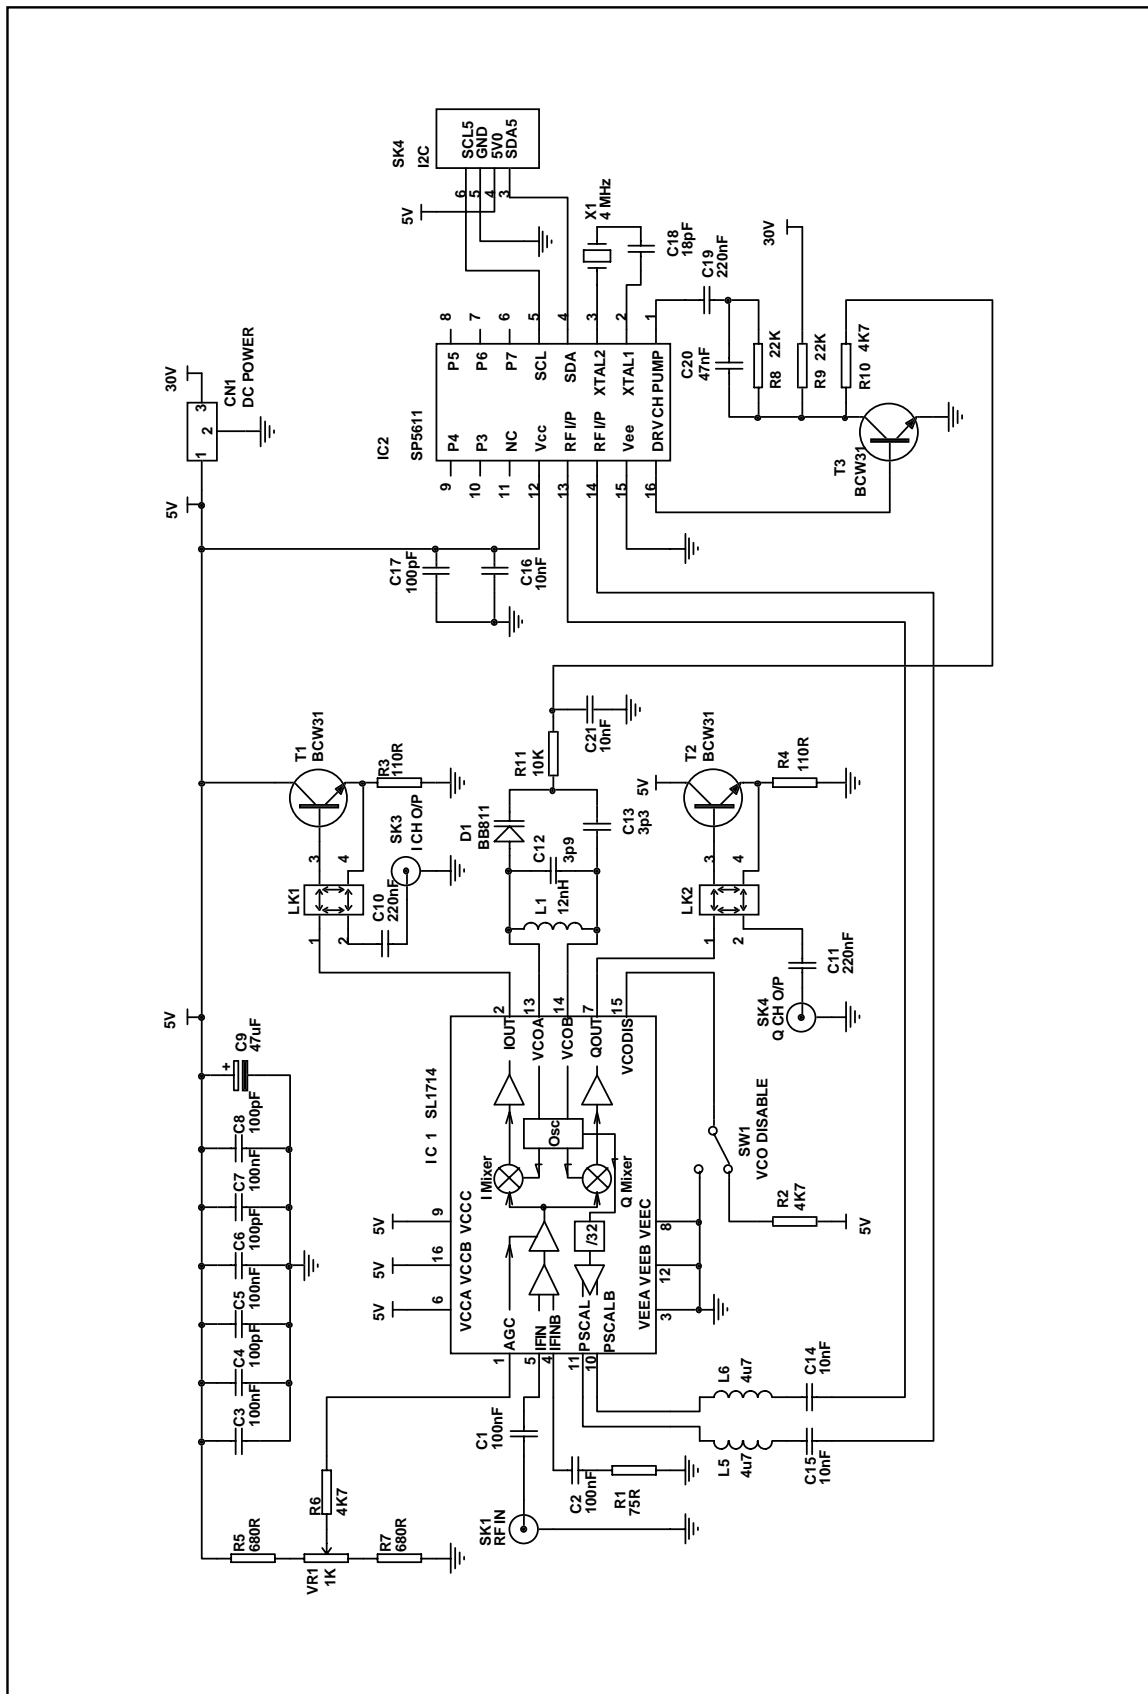
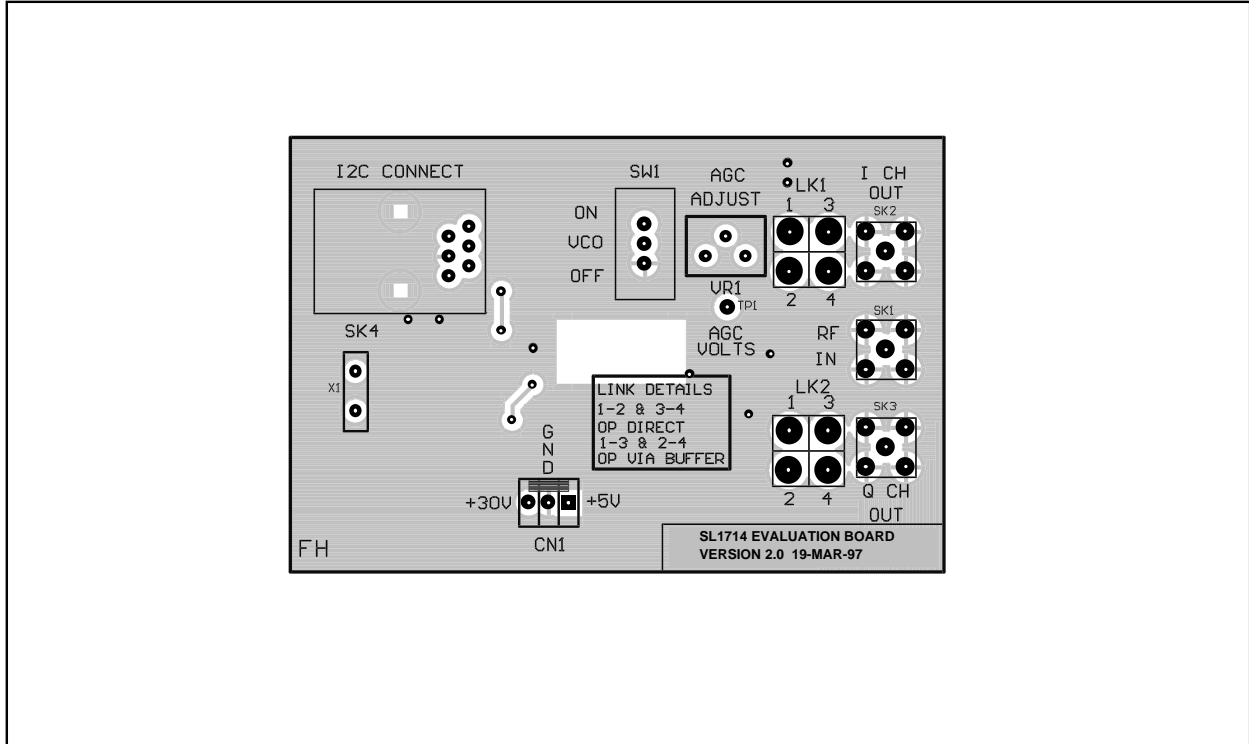
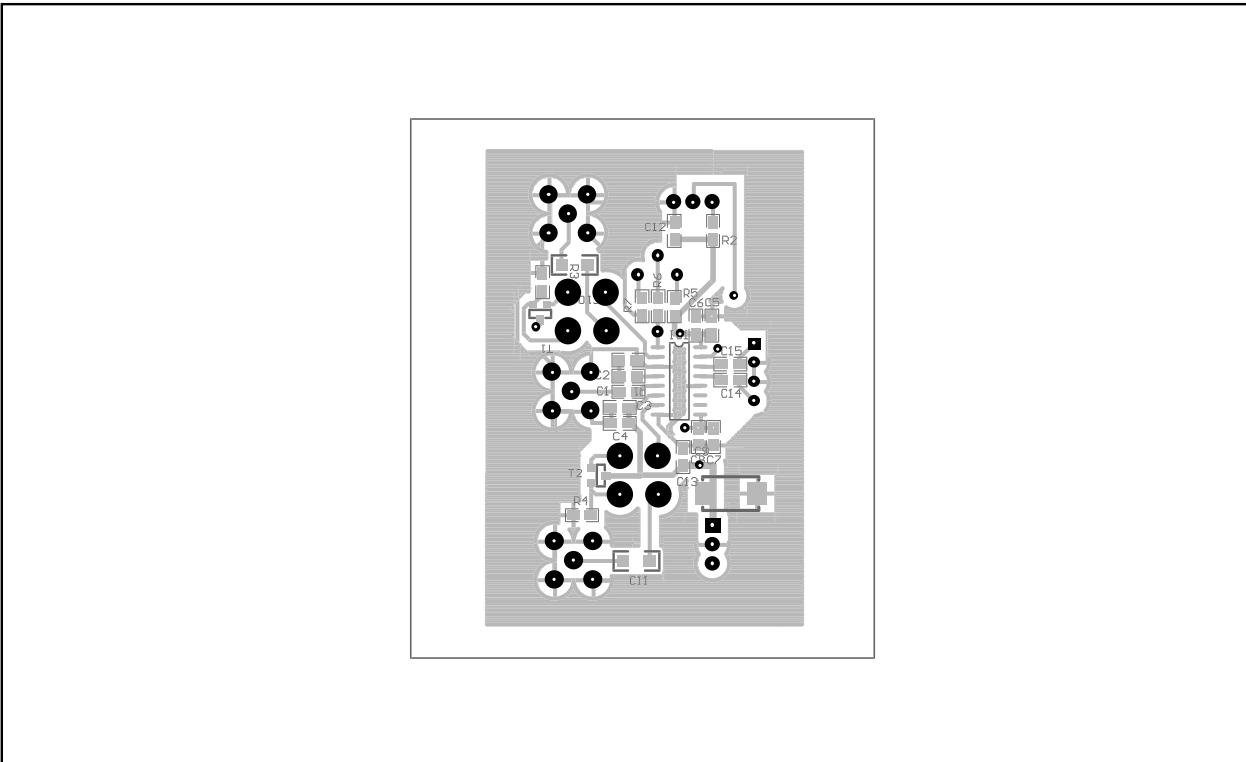

Fig.7 SL1714 standard evaluation board
Fig.8
Fig. 12
These application notes should be read in conjunction with circuit diagrams contained in Fig. 7 and 10, and a recommended front end tuner solution contained in Fig. 12. These boards have been designed to demonstrate performance and to allow for initial evaluation of the SL1714.
Refer to Fig. 7 circuit diagram and Figs. 8 and 9 PCB layout.
**Note:** All ICs shown in Fig. 12 are available from Mitel Semiconductor.